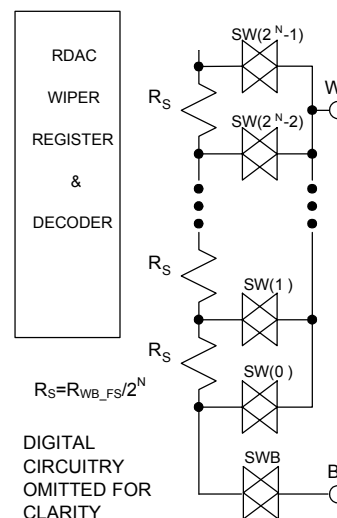

Figure 18.. Equivalent RDAC structure
Figure 18 shows an equivalent structure of the connections between the two terminals that make up one channel of an RDAC. The SWB switch will always be ON, while one of the switches SW(0) to SW(2N-1) will be ON at any given time depending on the resistance position decoded from the databits in the RDAC register.
The wiper first connection starts at the B terminal for data 000_H. $R_{WB}(0)$ is 50 Ω because of the wiper resistance and it is independent to the full-scale resistance. The second connection is the first tap point where $R_{WB}(1)$ becomes 48.8 Ω + 50 = 98.8 Ω for data 001_H. The third connection is the next tap point representing $R_{WB}(2)$ =97.6+50=147.6 Ω for data 002_H and so on. Each LSB data value increase moves the wiper up the resistor ladder until the last tap point is reached at $R_{WB}(512)$ =25001 Ω . See Figure 18 for a simplified diagram of the equivalent RDAC circuit.